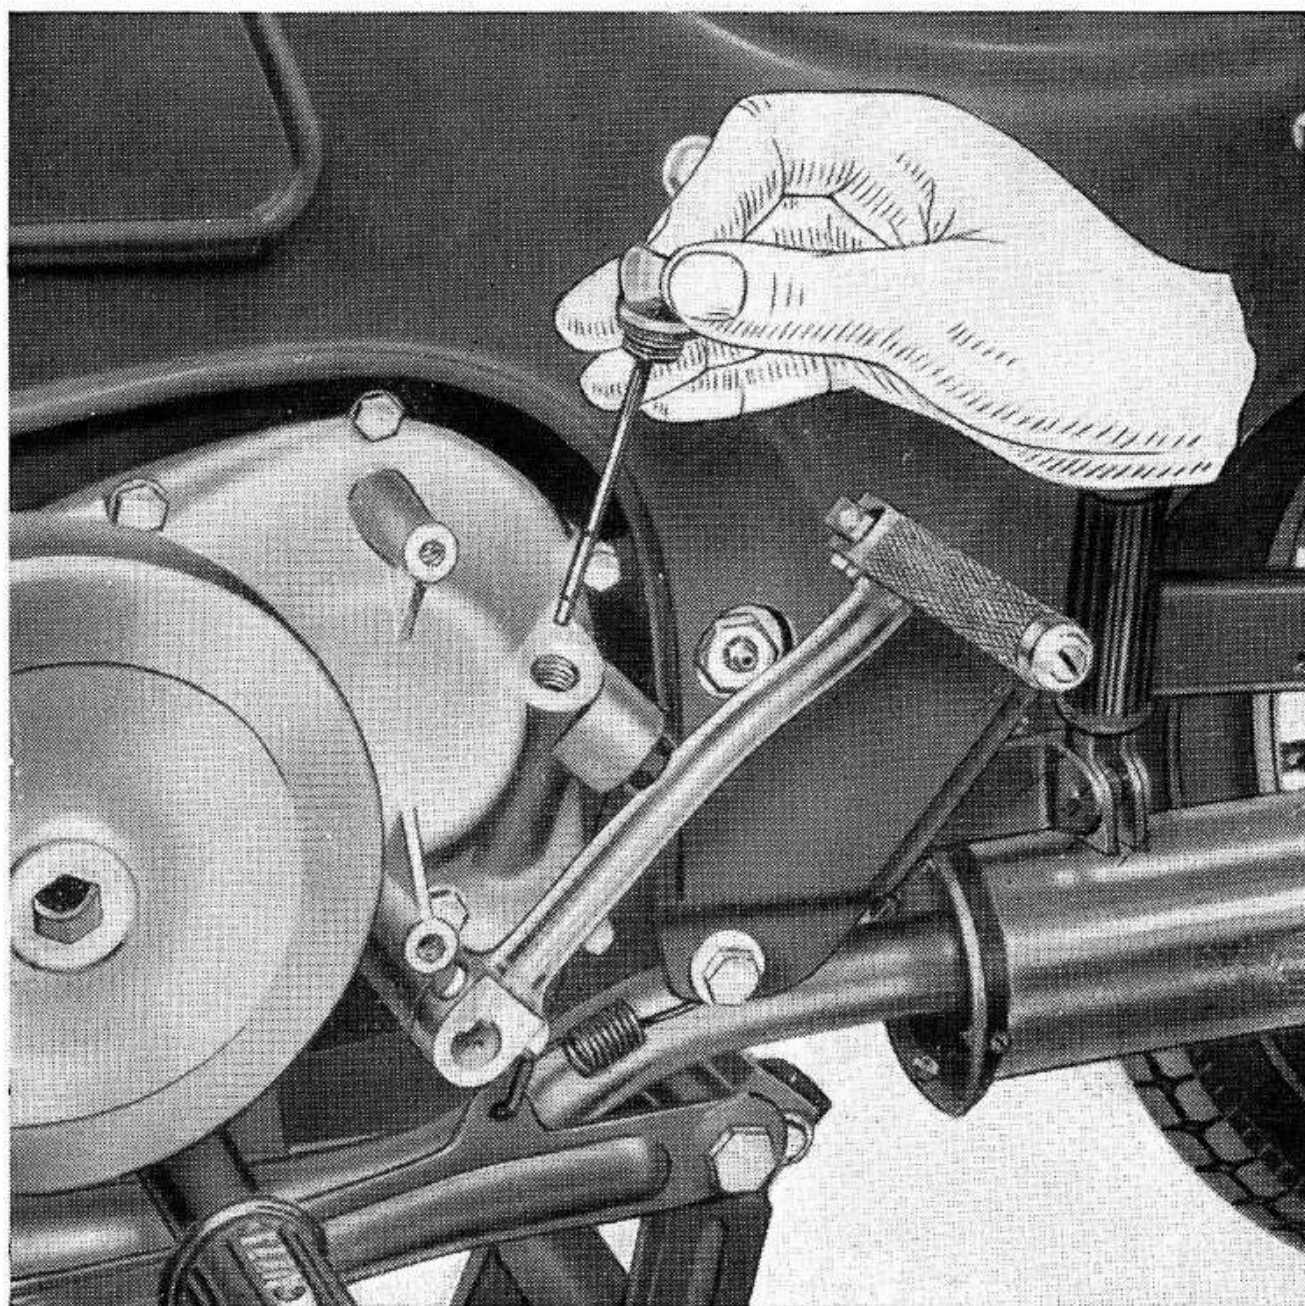
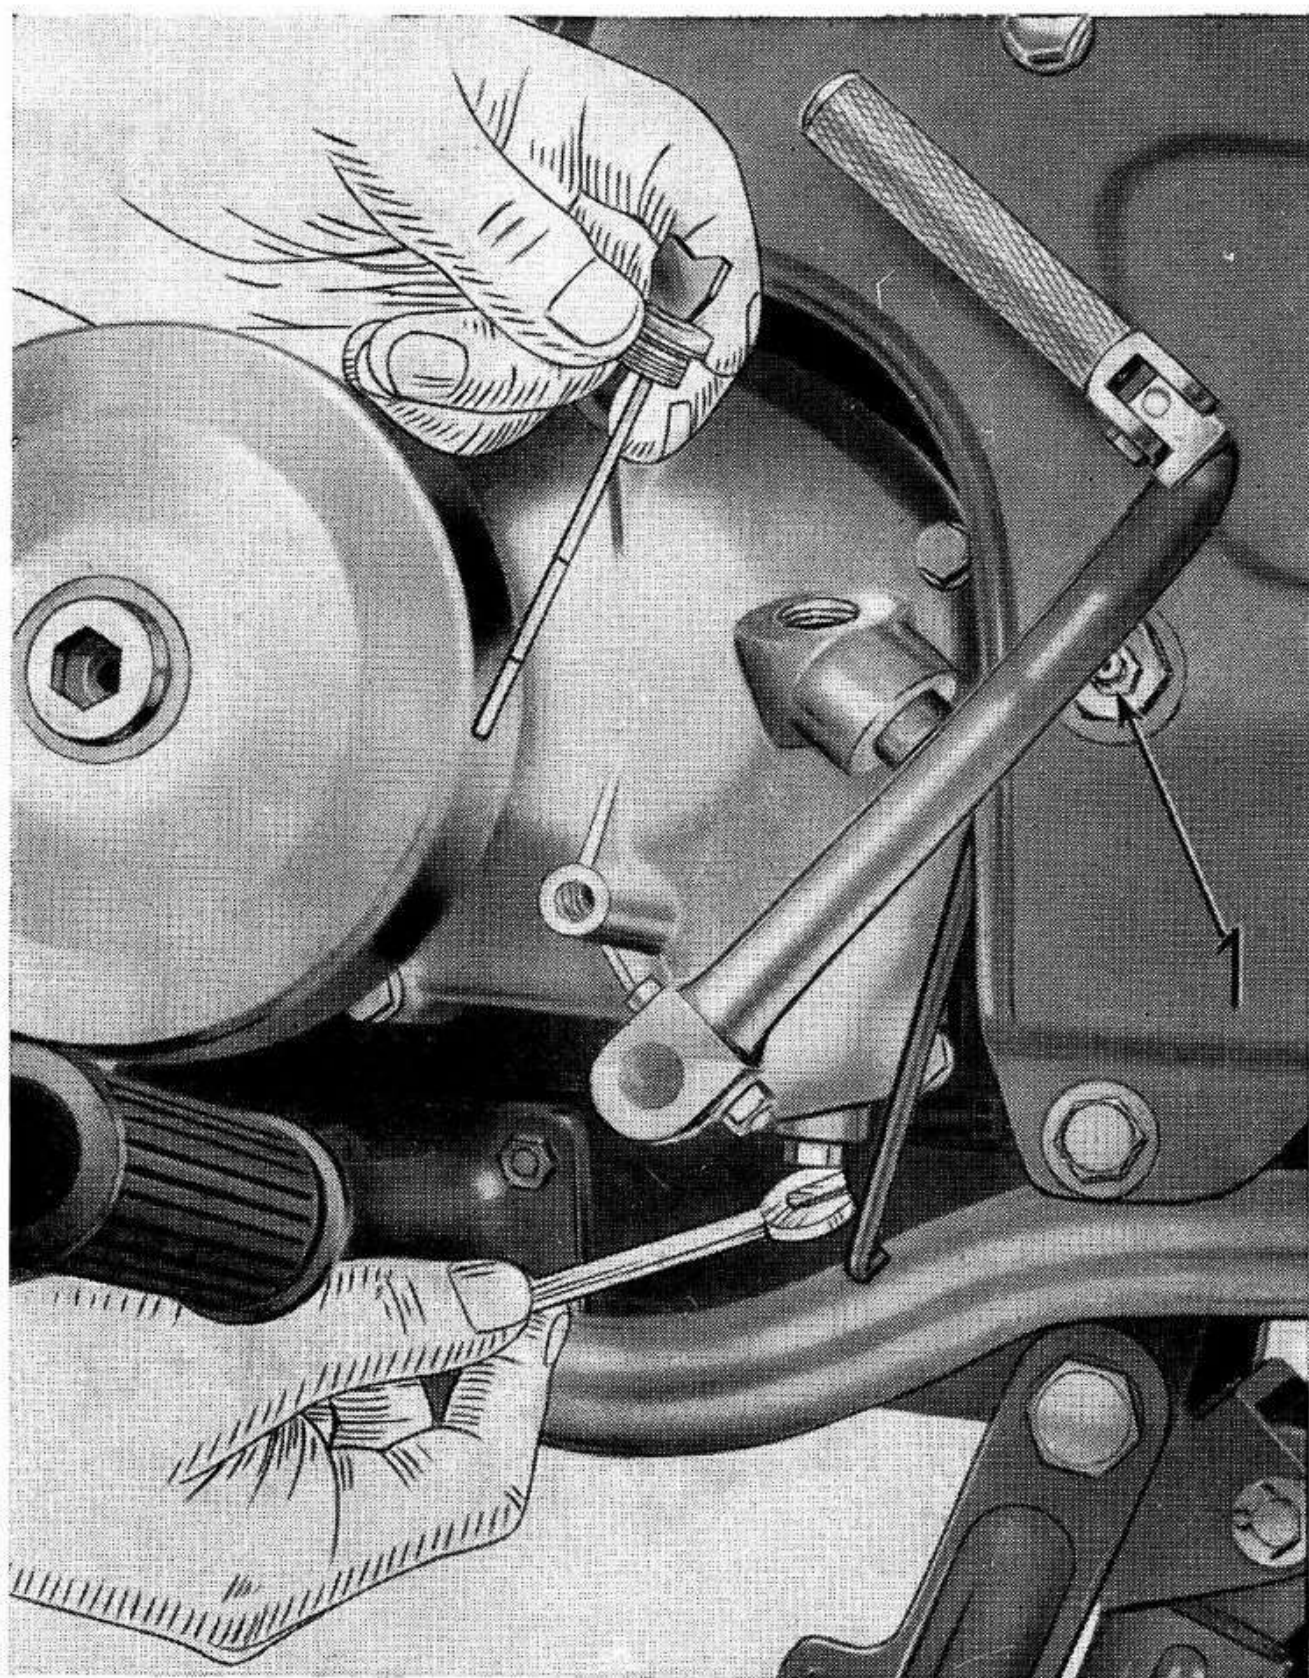

Fig. 4
Fig. 5
The engine itself is automatically lubricated by the presence of oil in the mixture. To replenish the gear box and transmission, take off the left hand crankcase cover and through the filler plug (fig. 4) introduce a fresh supply of oil of the same quality as used for the mixture. Its level should not exceed the mark on the dipstick fitted to the oil filler plug. This oil should be changed after the first 600 miles and annually or after about every 6000 miles. This operation should be done when the engine is hot. Every 600 miles it is advisable to check the oil level and if necessary fill up to level. To change the oil, take off the rear brake lever and remove the drain plug (fig. 5). Lean the machine over to the left and allow the oil to drain away.
- Swinging arm spindle. The nipples will be found on the left bottom side of the machine (see fig. 5, 1).